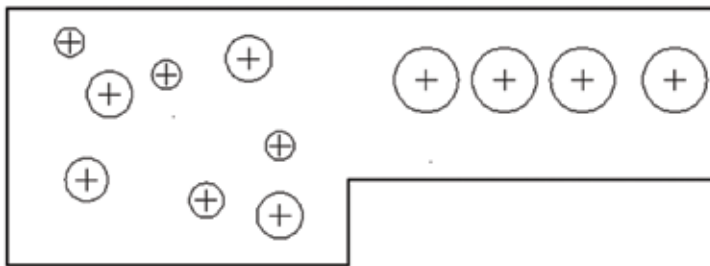

Figure 5.4
- Figure 5.4 shows the drawing with all of the circles entered.